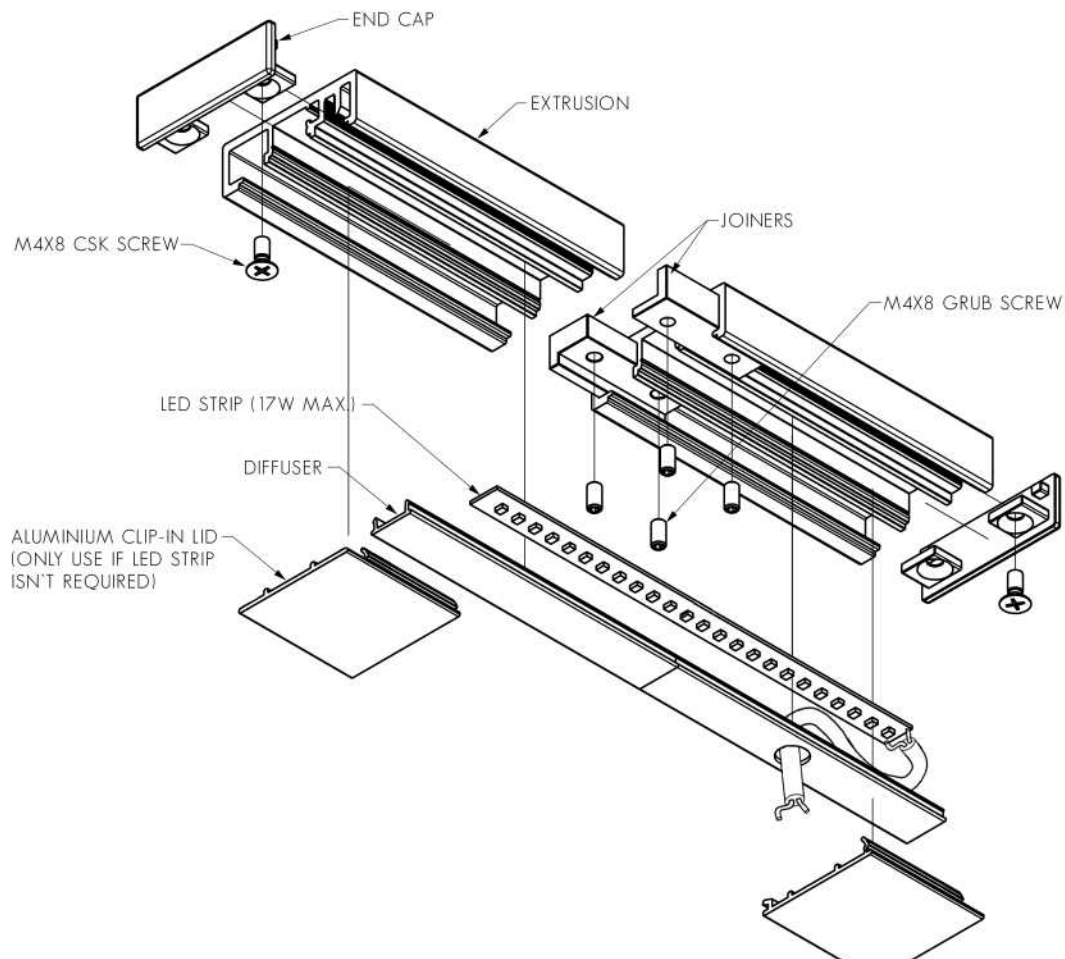

FIG. 4 - ENSURE JOINERS ARE LOCKED TOGETHER TIGHTLY
1. IF USING MULTIPLE LENGTHS OF EXTRUSION, SLIDE EXTRUSIONS TOGETHER ON TO JOINERS AND LOCK TOGETHER WITH GRUB SCREWS (SEE FIG. 4).